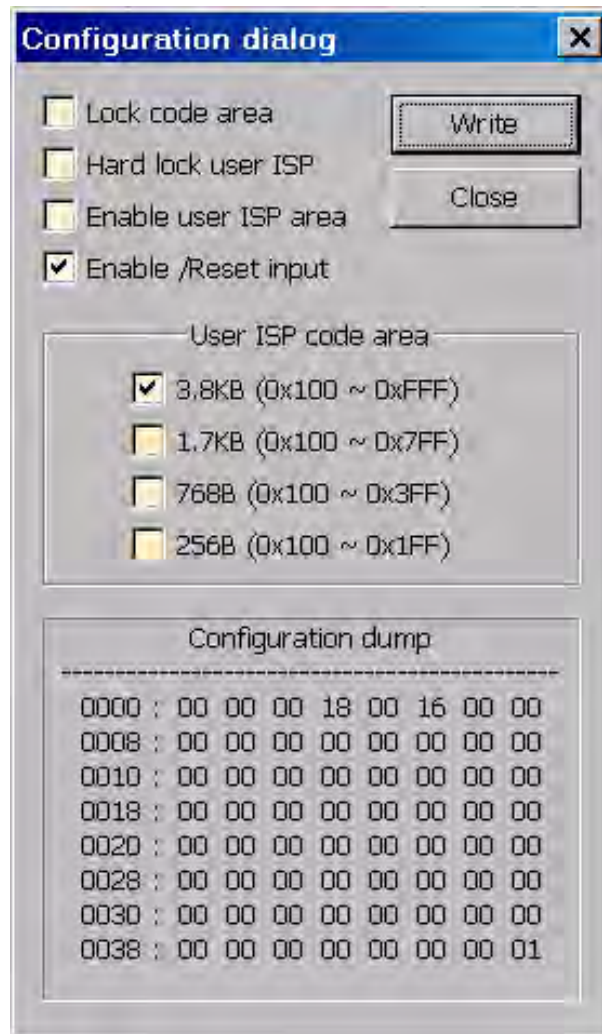

Figure 18. Configuration Dialog
7. Click the **Download** button to open the Configuration dialog box, shown in Figure 18.